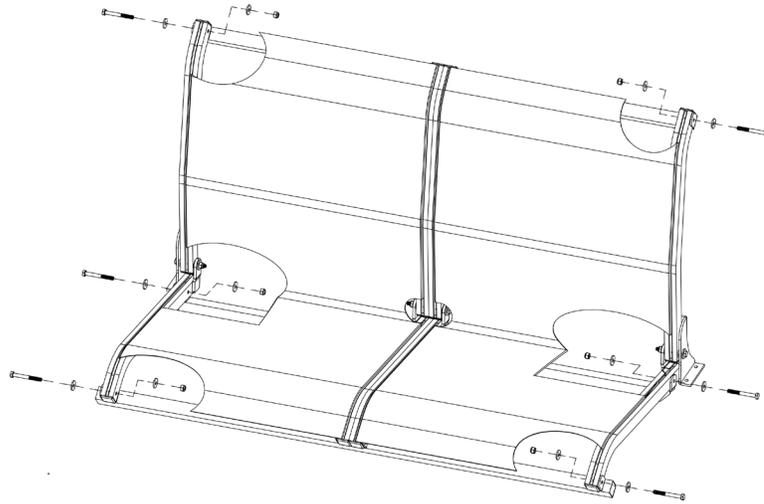

Figure 28
STEP 13: Now you can attach all six (6) of the outer seat frames to the spreader bars using six (6) 1/4" x 2-1/4" bolts, two (2) washers and one (1) nut on as shown in Figure 28. Install the nuts finger tight at this time.